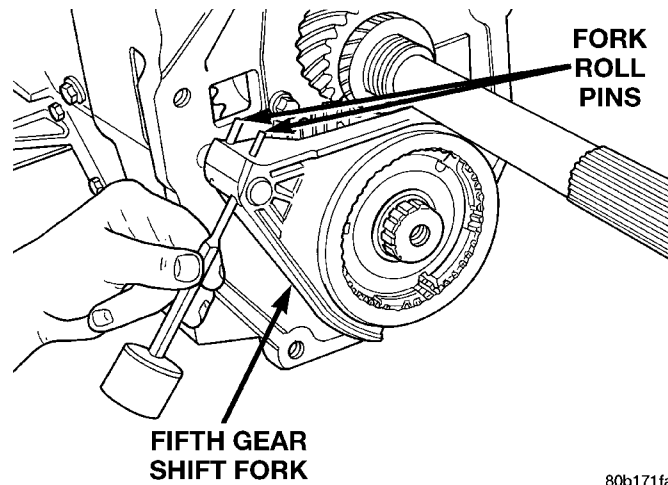

FIGURE 8 - Fifth Gear Shift Fork Roll Pins
31. Remove the roll pins that secure the countershaft fifth gear shift fork to the shift rail with a pin punch (Figure 8). Drive the roll pins from the bottom of the fork and not the top.